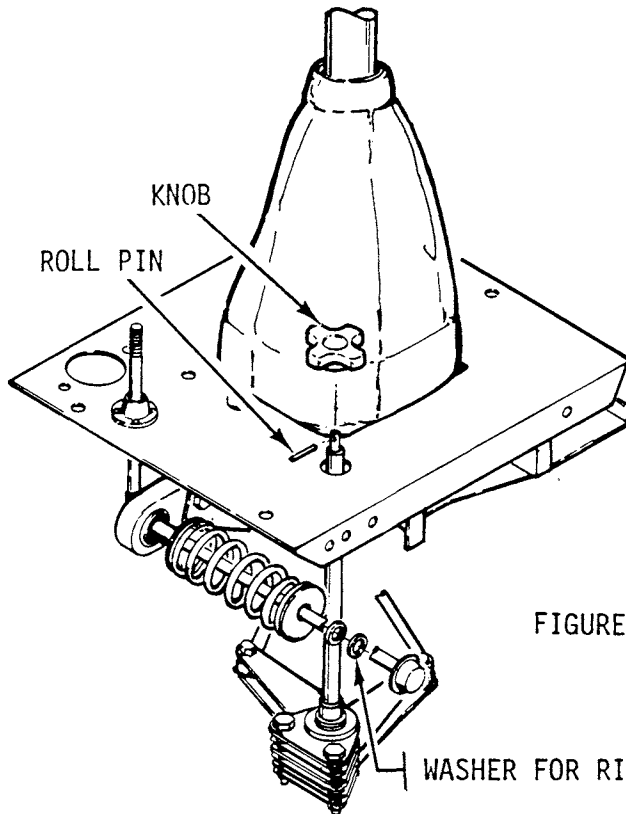

FIGURE 8-4C CYCLIC RIGHT TRIM ADJUSTMENT
5. Slide the A583-1 lower spring cap, spring, A583-1 uppercap, A588-1 spacer, and A581-1 arm onto the rod. See Figure 8-4C.
- d) Install a thick or thin washer (AN960-416 or 416L) as required to give the proper friction at the center of the cyclic grip measured in a lateral direction. See Figure 8-4C.